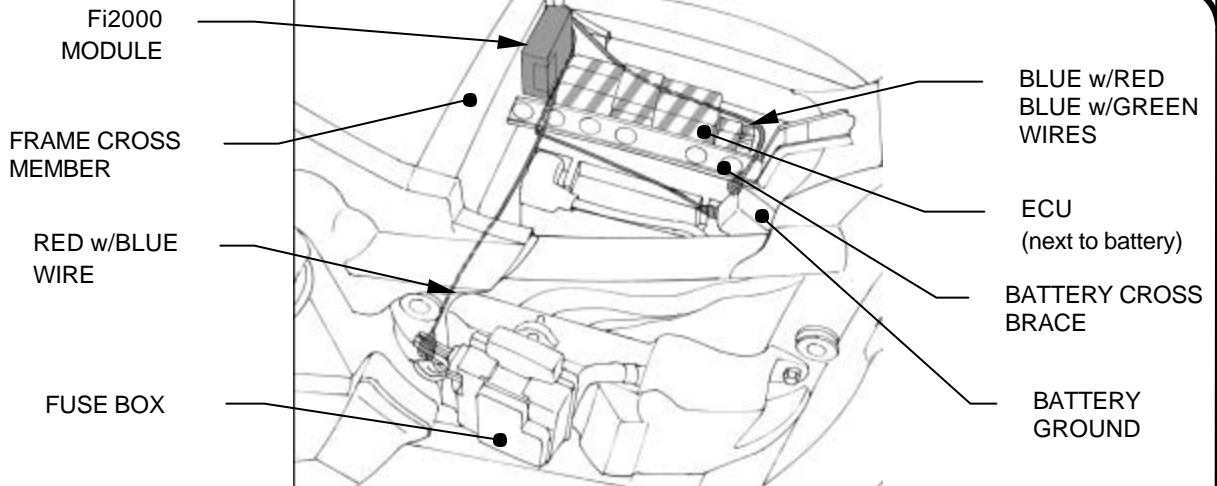

FIGURE 1
3. Remove the battery cross brace by unbolting the phillips screw. See figure 1.
4. Locate the ECU next to the battery and lift it straight up and out to locate the BLUE w/RED stripe wire and the BLUE w/GREEN stripe wire on the harness going to the white connector for the ECU. Attach a t-tap connector to each of these wires about an inch from the connector on the ECU. See figure 1
5. Plug the Fi2000 module's BLUE w/RED stripe and BLUE w/GREEN stripe wires to the corresponding ECU wires with the t-tap connectors and replace the ECU to its original location. Route the wires as shown in figure 1. **Note:** Make sure not to attach the t-tap connectors closer than 1" to the stock ECU connector.
6. Locate the RED w/BLUE stripe wire in the wiring loom on the right side of the motorcycle where the side cover was (the wire comes out of the fuse box) Attach a supplied t-tap connector on that wire. Refer to figure 1
7. Route the Fi2000's RED w/BLUE stripe wire behind the right frame rail and attach it to the t-tap connector installed in step 6 and the BLACK wire to the negative post of the battery. Refer to figure 1
8. Remove the backing from the Velcro and attach the Cobra module vertically at the back left corner just in front of the frame cross member as shown in figure 1. Make sure the module is low enough to clear the seat.
10. Before re-installing the seat and side cover, verify your connections. Remove the door from the Fi2000 box to expose the LED's. Verify the wire connections by (1) turning the ignition on, prior to starting, and see if all three LED's are on steady. If you have no light, either your ground connection (BLACK wire) is not solid or, (more likely) your RED w/BLUE stripe wire connection is incorrect. You have either tapped on the wrong wire or the tap has not made contact. (2) After achieving a steady light from all three LED's, start the motorcycle and let it idle, the green light should now be the only LED on. If all three LED's are still on after start up, your BLUE w/RED stripe wire connection is incorrect; if all three LED's are flashing, your BLUE w/GREEN stripe wire connection is wrong. Again verify correct color and tap contact. Reattach the door when finished. **Note:** Make sure the ignition is turn off before changing any connection.